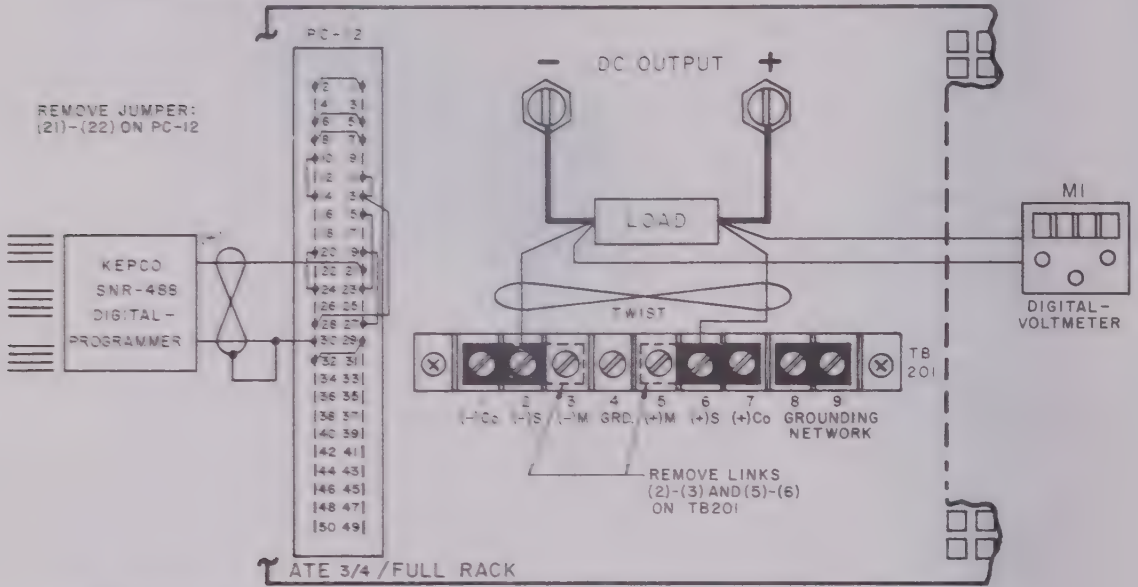

FIG. 3.6 OUTPUT VOLTAGE CONTROL WITH AN EXTERNAL (0-10V, 1 mA) D-C CONTROL SIGNAL.
- 3-38 GENERAL. The ATE output voltage which is controlled by a front panel VOLTAGE CONTROL in the Local control mode, can be remotely controlled by disconnecting the internal VOLTAGE CONTROL AMPL at the REAR PROGRAMMING CONNECTOR (PC-12) and substituting an external control signal at the input of the VOLTAGE COMPARISON AMPL with reference to the PROGRAMMING COMMON. For this "direct drive" method of voltage control, the control signal must be a positive going 0-10 volt d-c voltage source, able to supply at least 1 mA of control current. An application, demonstrating this control method is described in PAR. 3-41, and illustrated in FIG. 3-6
- 1) Connect the EXT. CONTROL VOLTAGE, (SN-488 DIGITAL PROGRAMMER), the LOAD and the PRECISION VOLTMETER (M1) to the ATE as shown in FIG. 3-6.